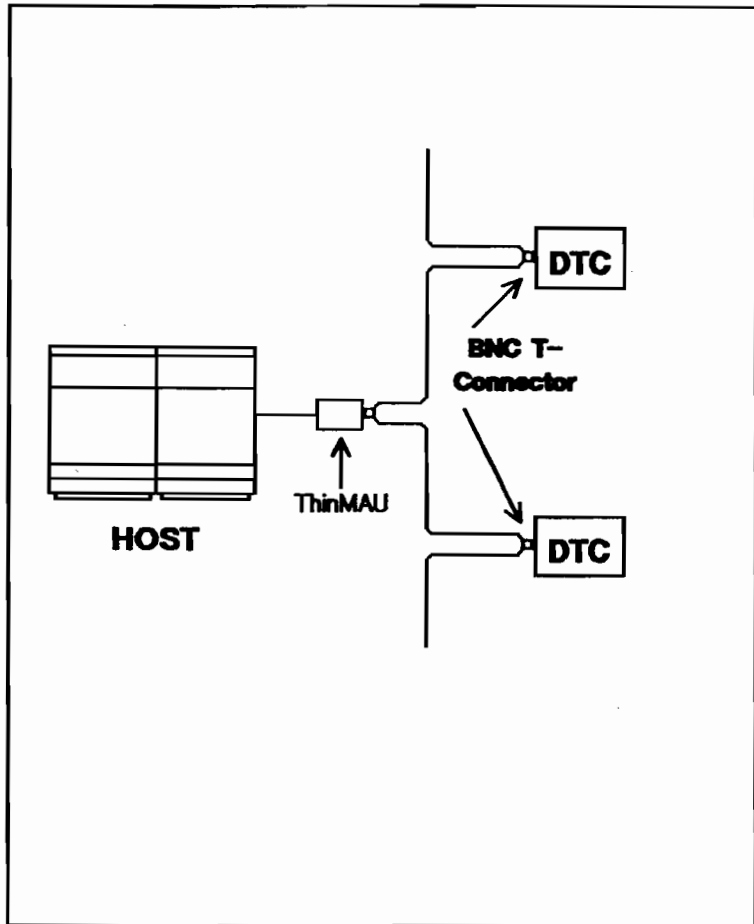

Figure 1-2. ThinLAN Configuration
- Figure 1-2. ThinLAN Configuration 1-5
ThinLAN is a flexible cable which is easy to install, and can be bent around objects to accommodate its use in confined areas. ThinLAN is connected to the computer through a ThinMau (Medium Attachment Unit), with a small BNC T-connector used to connect each DTC to the LAN. You can connect up to three segments of the cable with two repeaters, thus extending the length of the LAN 555 meters. Figure 1-2 shows a configuration using ThinLAN.